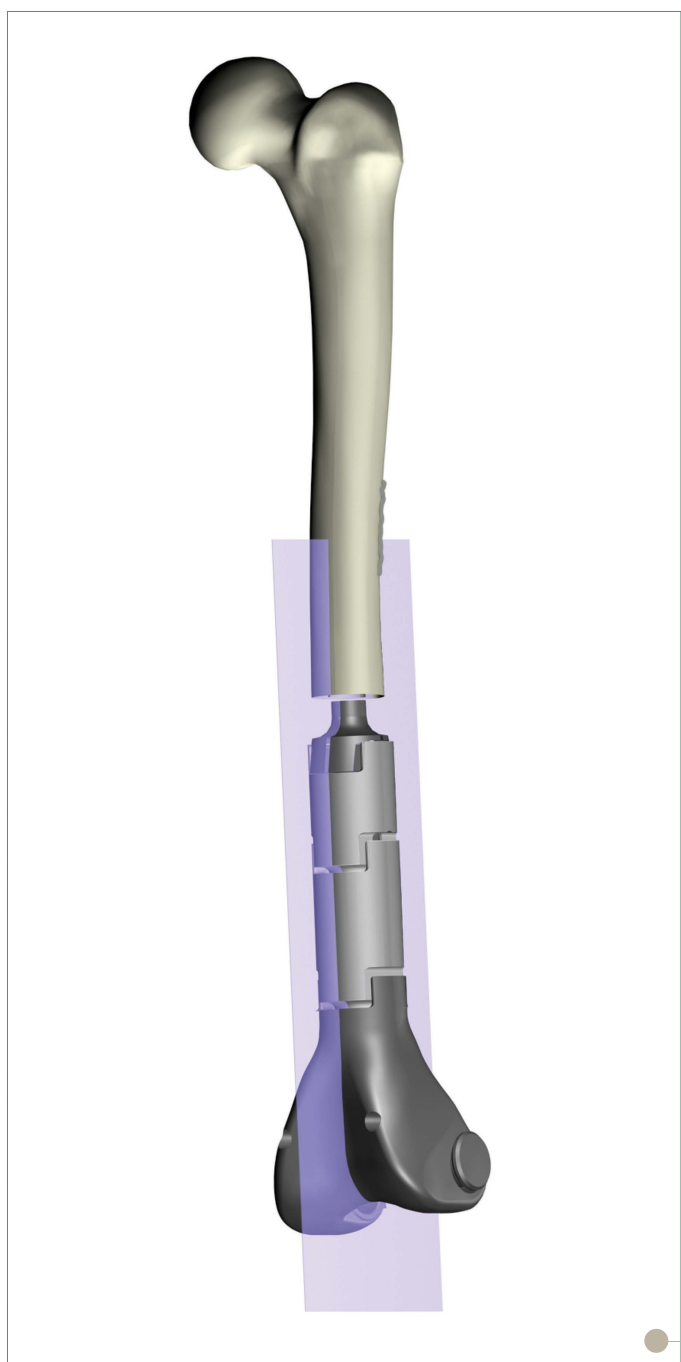

Figure 23
- Construct the Trial Femoral Prosthesis by joining the Trial Cemented Stem with the Trial Extension Piece and with the Trial Distal Femoral Component. Insert the stem of the trial femoral assembly into the femur. As a guide to rotational orientation, align the rotational alignment mark on the femoral stem segment with the rotational reference mark previously made on the anterior cortex of the femur (**Figure 23**).